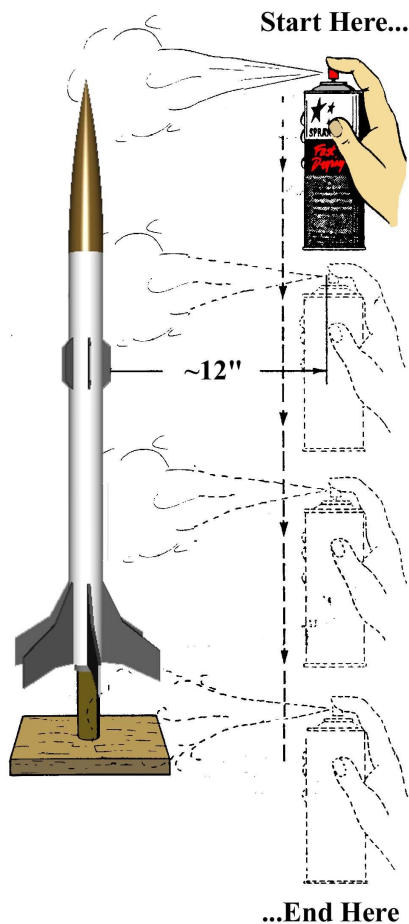

Figure 10
- **Step 23** The choice of paint scheme is left up to you, but we recommend a white body, gloss black for the fins, and metallic copper for the nose cone. The decals will provide the remaining trim colors. Spray the model in a consistent manner, as shown in Fig. 10 below, always in the same direction, top to bottom. Give the entire model a coat of white as a base color. When applying trim colors, spray the nose cone separately, but use the same method. Do not use heavy coats, but multiple light coats, building up
- **Step 24** After the final color coat has dried for several days, spray a clear gloss acrylic coat over the entire model in the same manner as shown in Fig. 10. Give this a day to fully cure, then apply the decals shown at the front of these instructions.